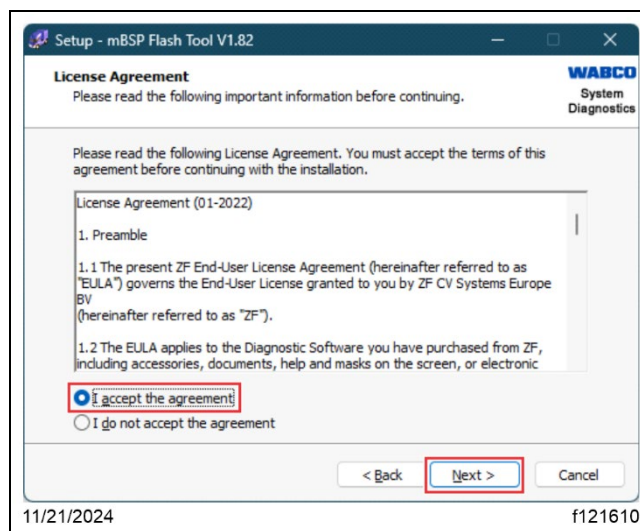

Fig. 35, License Agreement
7.6. On the 'License Agreement' screen, select the radio button next to 'I accept the agreement,' then select 'Next.' See Fig. 35.